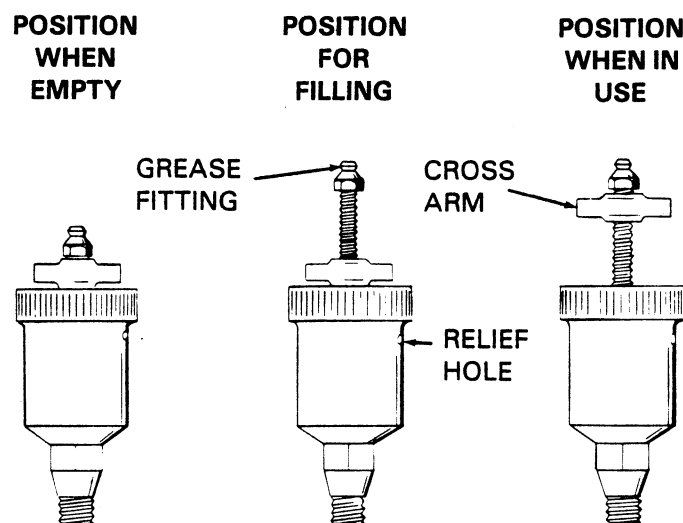

Figure 5. Automatic Lubricating Grease Cup
Before removing the seal assembly, turn the cross arm on the seal grease cup (9) clockwise until it rests against the cover (see figure 5). This will prevent the grease in the cup from escaping after the seal is removed.
Before starting the pump, fill the grease cup through the grease fitting with a good grade of No. 2 pressure gun grease until grease escapes from the relief hole. Turn the grease cup arm counterclockwise until it is at the top of the stem; this will release the spring to apply grease to the seal (see figure 5).